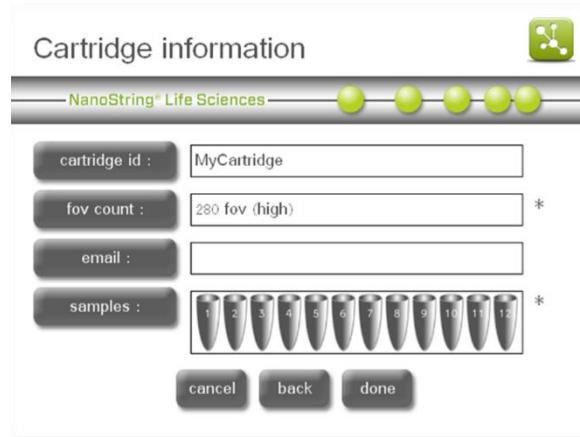

Figure 72: The ‘Cartridge information’ screen
5. The Digital Analyzer will return to the ‘Cartridge information’ screen (**Figure 72**). Press **fov count** to change the data resolution.
7. The system will return to the ‘Cartridge Information’ screen (**Figure 72**).